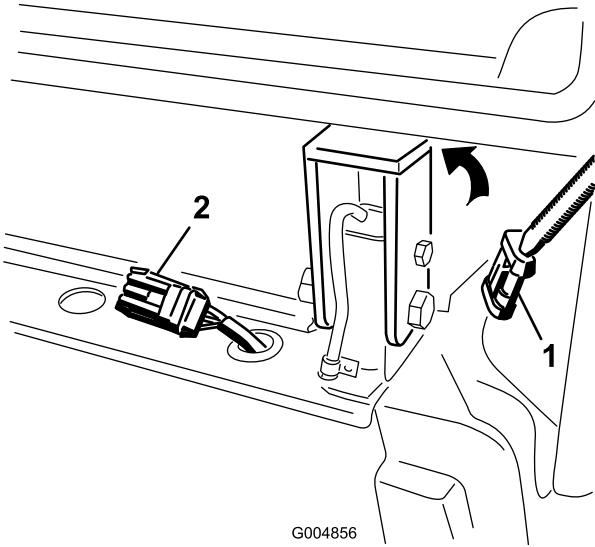

Figure 79
17. Unplug the cab harness connector (Figure 79) and install the cap onto the connector.